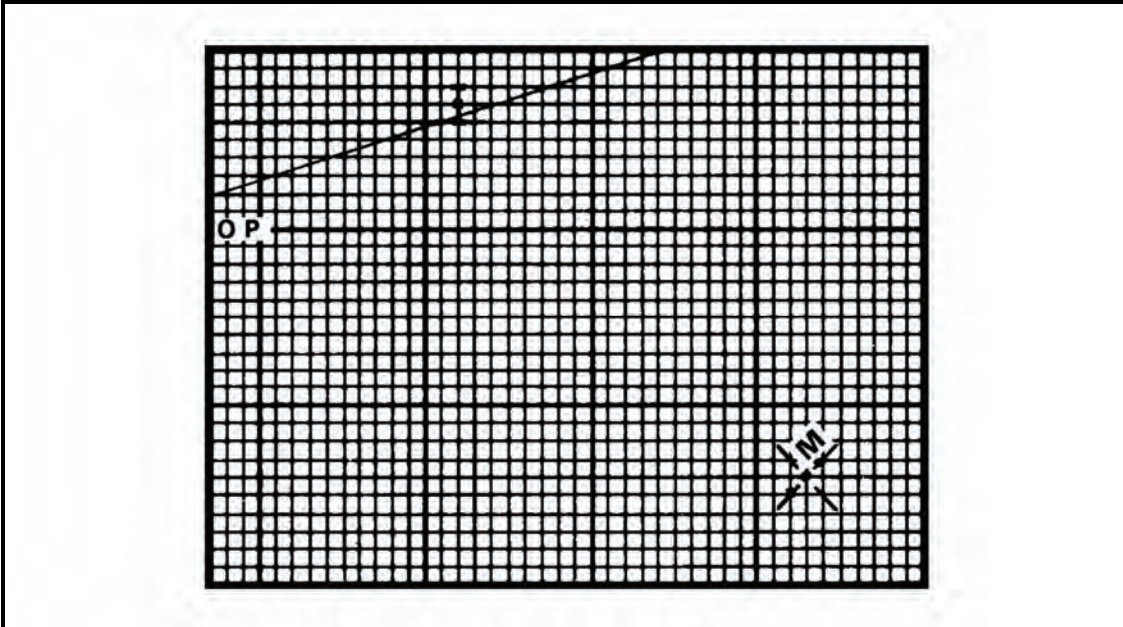

Figure 14-18. Plotting of No. 1, No. 2, and No. 3 mortars.
- (4) Using the last plot, the computer draws the FPF symbol by extending a line 90 meters long toward the top of the board and 10 meters long from the plot towards the bottom of the board. This shows the full 100-meter width of the FPF.
- (5) The remaining plots for the No. 1, No. 2, and No. 3 mortars are then plotted 40 meters apart (Figure 14-18).